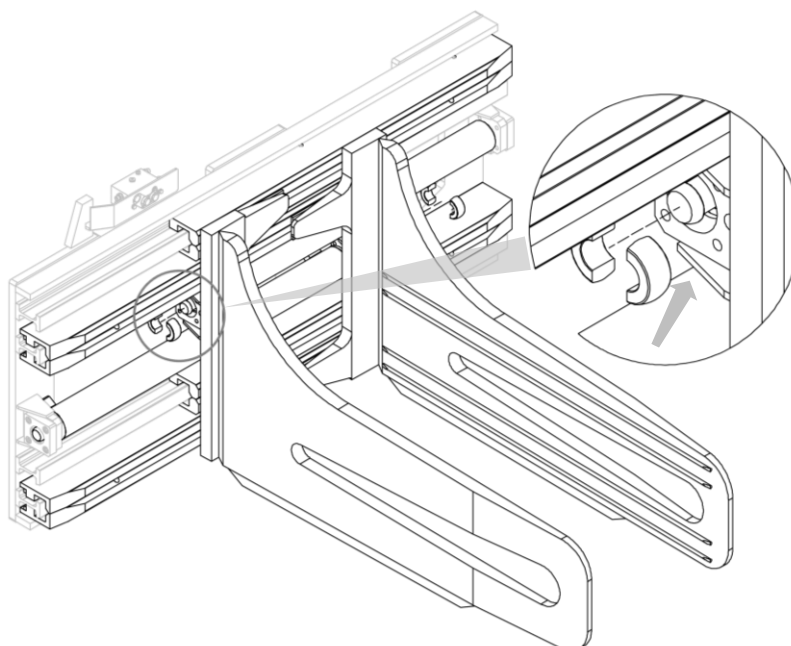

Figure 8
3. Install the locking collars (see *Figure 8*).